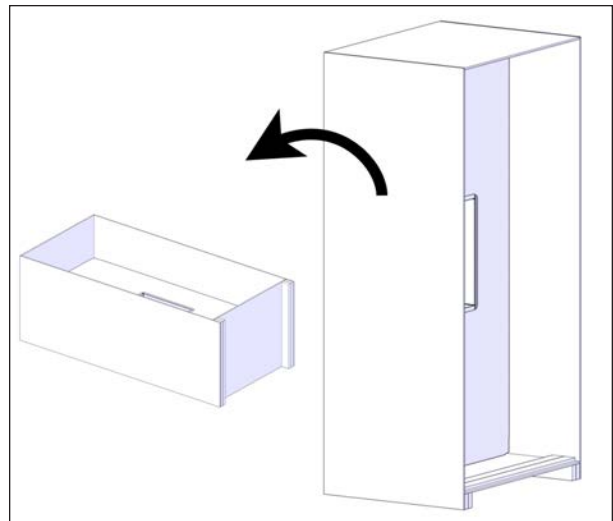

FIGURE 25: LAY THE CRATE ON ITS BACK
16. With the help of another person, lay the crate horizontally on its back. There should be one person on each side of the crate, see Figure 25.